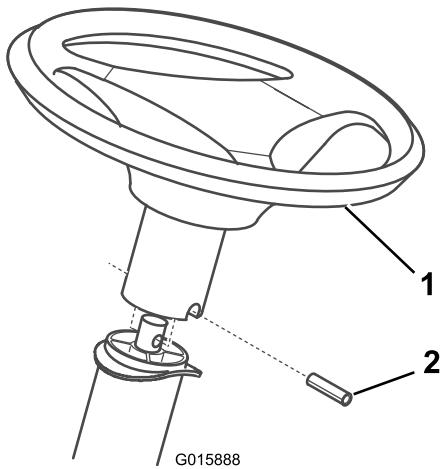

Figure 3
2. Slide the steering wheel over the steering shaft and line up the hole in the steering wheel with the hole in the shaft (Figure 3).
5. Using a hammer, drive the spiral pin in until it is flush with the outside of the steering wheel (Figure 3).
1. Position the seat onto the seat base by inserting 2 shoulder bolts through the key hole openings at the end of both slots (Fig. 3).